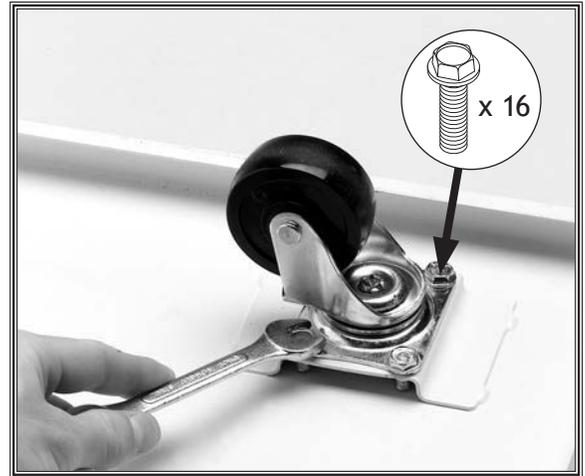

Figure 6. Installing caster to base.
2. Attach the casters to the base with (16) $\frac{5}{16}$ "-8 x $\frac{1}{2}$ " flange bolts, as shown in **Figure 6**.